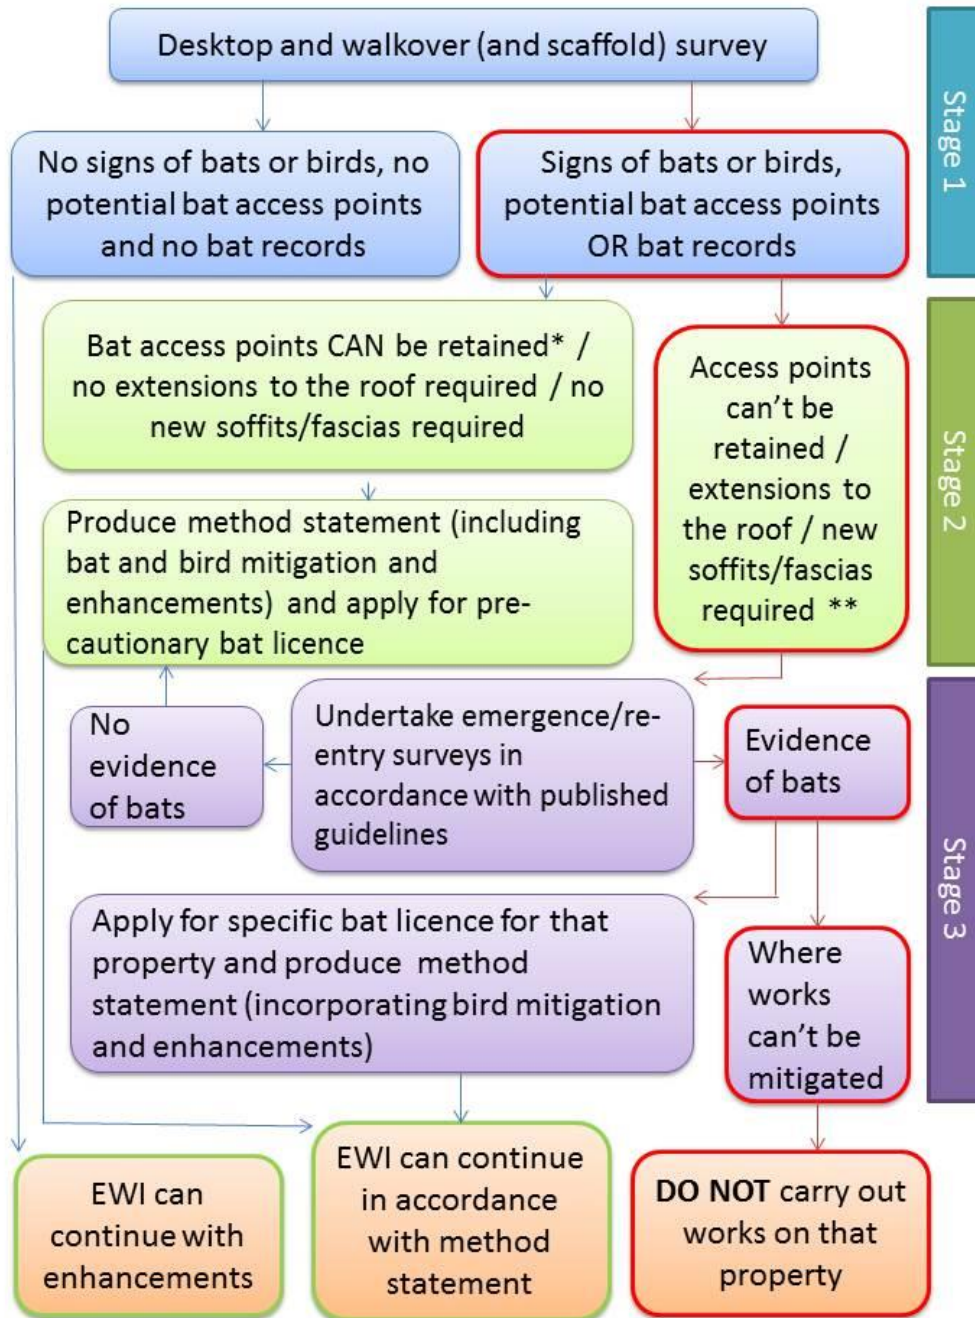

Figure B2-1: Protected species survey strategy
- 2.1.2 The ecological survey should follow the strategy illustrated in figure B2-1 in Appendix A.